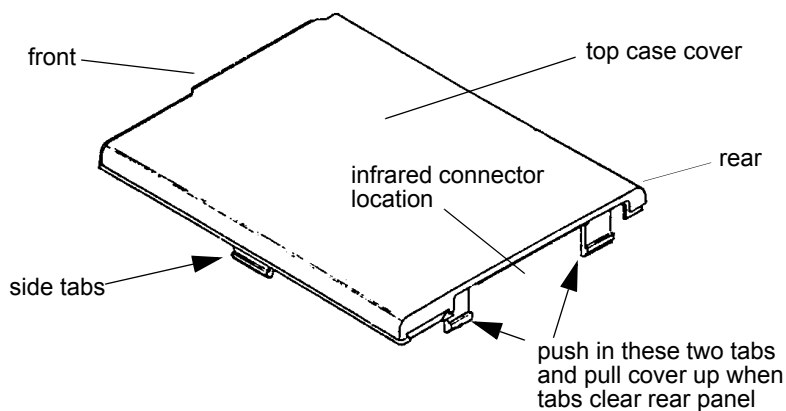

Figure 4-3: Top cover removal
- 1 At the rear of unit, use two small screwdrivers (or similar tools) to press in on the cover's two locking tabs until the tabs both clear contact with the rear panel (the tabs are located on each side of the infrared connector, refer to *Figure 4-3: Top cover removal*).